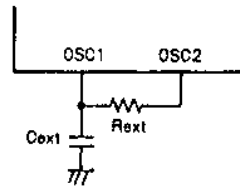

Fig. 3 2-Pin RC Oscillation Circuit
| 2-Pin RC Oscillation | I _{DDOP} (2) | Fig. 3 f _{OSC} =750kHz (TYP) | V _{DD} =4 to 6V, V _{DD} | | 1.5 | 5 | mA |
| | I _{DDOP} (3) | Fig. 3 f _{OSC} =350kHz (TYP) | V _{DD} | | 1.0 | 4 | mA |
| 2-Pin RC OSC Oscillation Frequency | f _{MOSC} | Fig. 3, C _{ext} =270pF±5% | V _{DD} =4 to 6V, OSC1, OSC2 | 612 | 850 | 1159 | kHz |
| | | Fig. 3, R _{ext} =4.7kohms±1% | | | | | |
| | | Fig. 3, C _{ext} =270pF±5% Fig. 3, R _{ext} =12kohms±1% | OSC1, OSC2 | 275 | 400 | 642 | kHz |